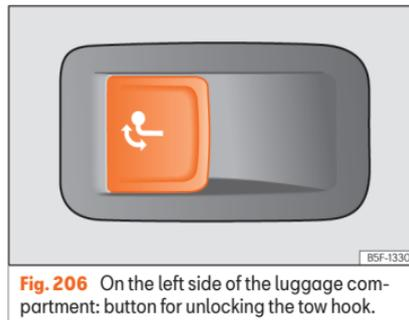

Fig. 206 On the left side of the luggage compartment: button for unlocking the tow hook.
- Pull the  Fig. 206 button briefly. The tow hook unlocks electrically and automatically
- Pull the »» Fig. 206 button briefly. The tow hook unlocks electrically.
- If the warning light on the button »» Fig. 206 → flashes, this means that the tow hook has not been attached properly or is damaged »» ⚠.
- If the warning lamp »» Fig. 206 → remains on with the rear lid open, the tow hook is correctly in place both when extracted and when covered.
- Never press the »» Fig. 206 button when there is a trailer hooked to the vehicle or when a carrier system or other accessories are mounted on the tow hook.